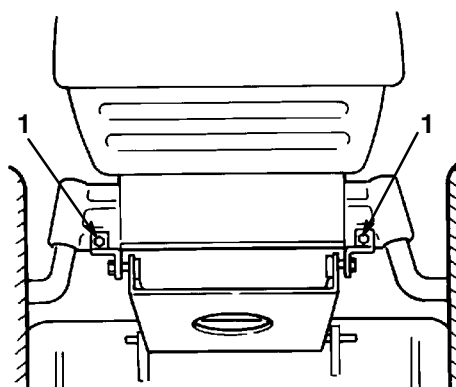

Figure 39
5. Install the mower pivot mount brackets to the front axle with bolts and lock nuts (Fig. 39).